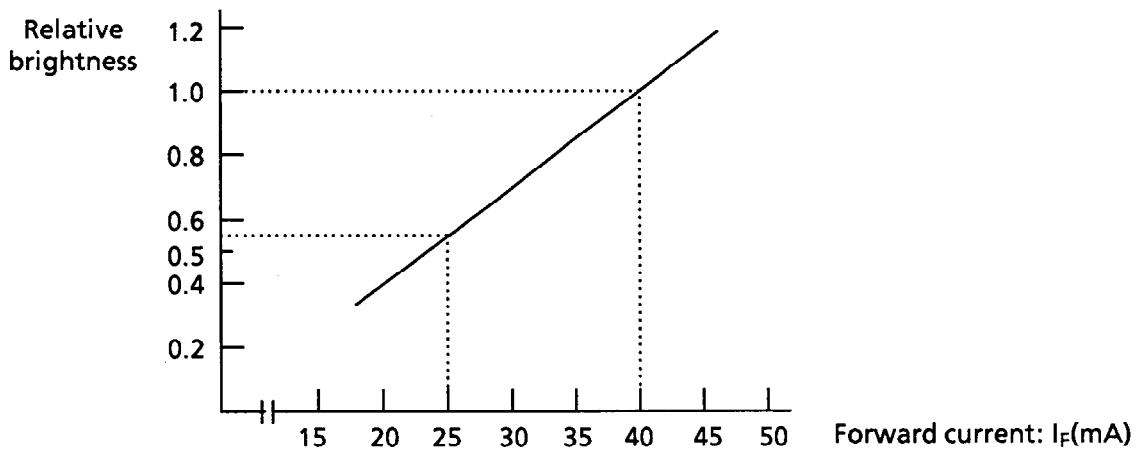

Figure 12 Forward Current-Brightness Characteristics ($T_a = 25^\circ\text{C}$)
For this resistance value, the forward current becomes lower than 25 mA at 25°C. The surface brightness of the LED backlight varies with the forward current. See Figure 12. Compared with 1.8 (4) brightness ($I_F = 40$ mA), the brightness is about 40%.